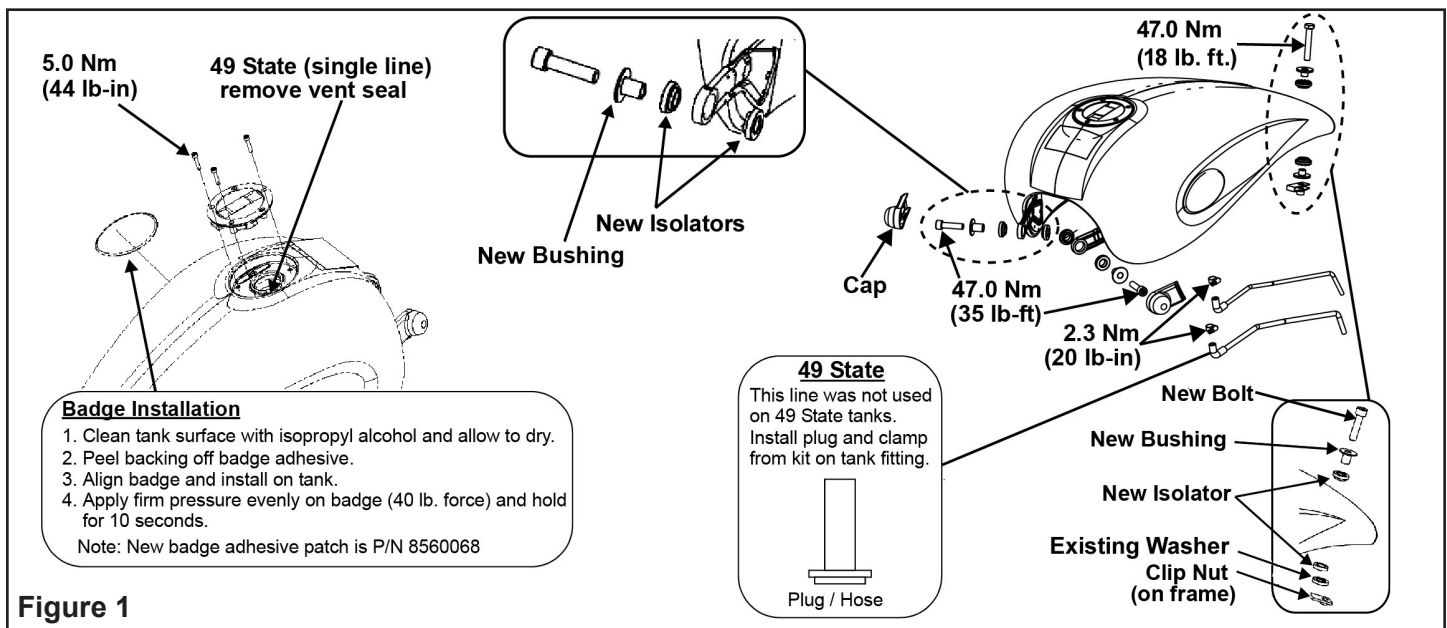

Figure 1
7. Install new front tank mount bushings and new isolators supplied with kit to new tank. Figure 1.